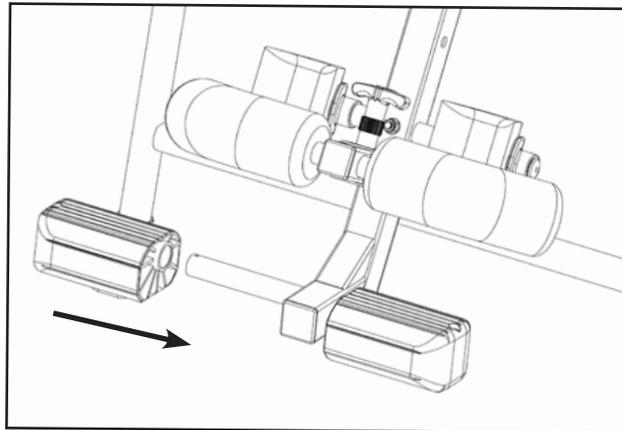

Figure 14
- Slide the Foot Bar (IA-1119) with one Foot Piece (IA-1118) in the hole beneath the Ankle Clamps (Figure 14).
- The Foot Pieces are designed with a High and Low setting. Position in the Low setting (Screw holes facing up) for ease of assembly. Slide the other Foot Piece onto the Bar (Figure 14).